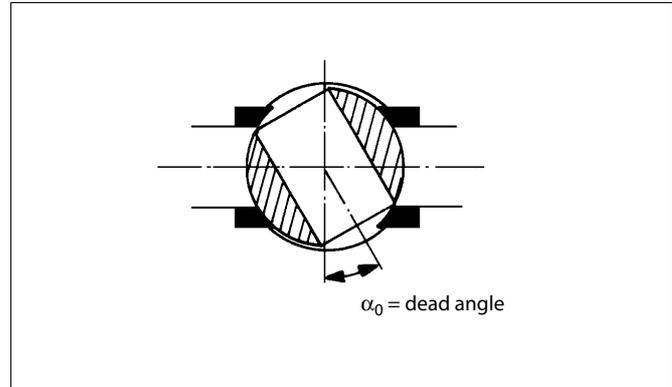

Fig. 13 Zero and range adjustments
- Set the input signal at the closed limit of the valve so that it is 2 % i.e. 0.3 mA higher or lower than the limit value, (e.g. $4 + 0.3 = 4.3$ mA or $20 - 0.3 = 19.7$ mA). Turn the zero adjustment nut (61) with a screwdriver or fingers so that the actuator comes slowly to the closed limit. The valve should open slightly with a 4 % change in signal, that is 0.6 mA, (e.g. $4 + 0.6 = 4.6$ mA or $20 - 0.6 = 19.4$ mA). See Figure 13.
Check the condition of the O-rings (43 and 47) and of the gasket (45). The end of the leaf spring on the beam must be on top of the pilot valve spool (Figure 13). Make sure that the end of the beam (5) goes into the spool groove without sideways deflections. After tightening the nuts (49), check the beam once again by hand to see that the pilot valve moves readily.